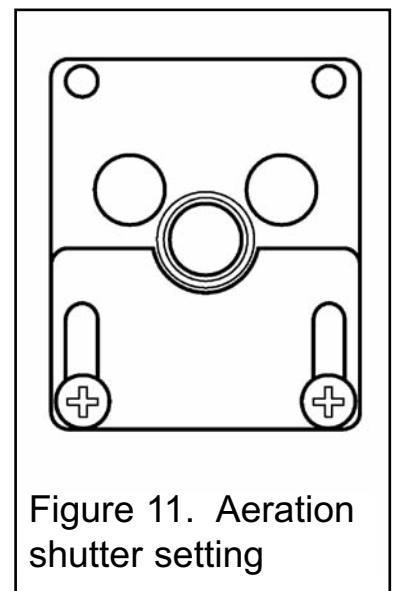

Figure 11. Aeration shutter setting
- The aeration shutter is factory set. It is important to ensure that the aeration setting is correct. Check the aeration shutter setting (See figure 11).
- To adjust the aeration setting, loosen the two aeration shutter screws, slide the aeration shutter to the position shown in figure 11 and tighten the fixing screws.